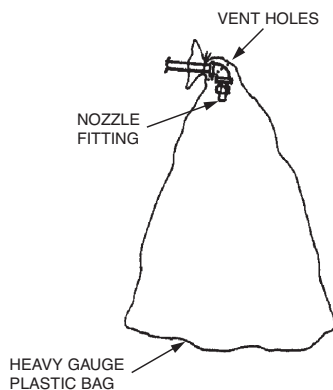
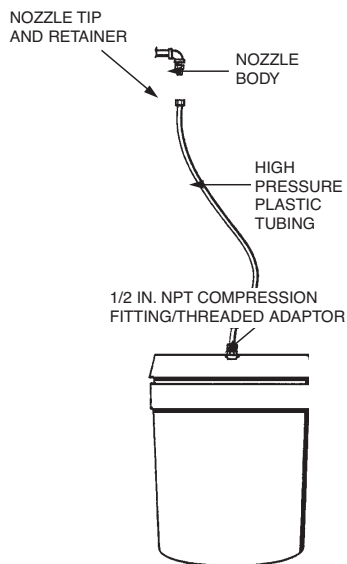

FIGURE 2
FIGURE 3
7. To perform the flushing procedure, either secure heavy-duty plastic bags to each nozzle (See Figure 2) or remove each nozzle tip and strainer and attach plastic tubing. See Figure 3. If using plastic bags, secure bags and proceed to Step 9. If using plastic tubing, proceed to Step 8.